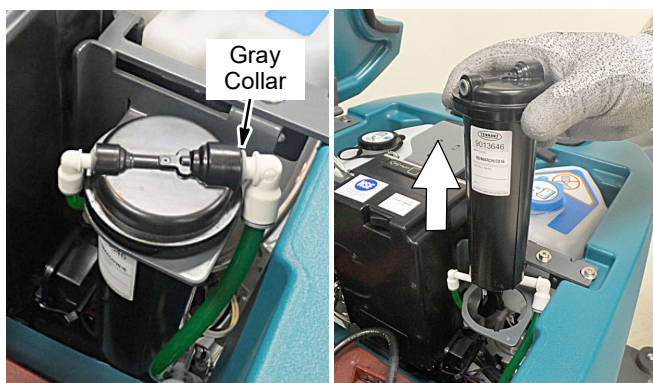

FIG. 131
3. Disconnect the two hose connectors from the top of the cartridge by pressing the gray collars inward and pulling the connectors outward (Figure 131). Lift cartridge to remove.